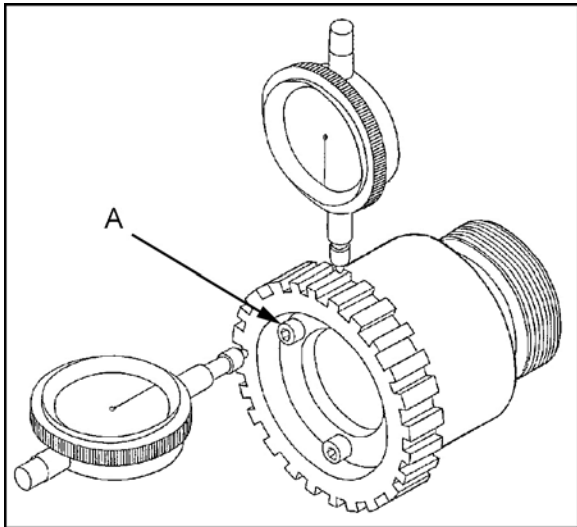

Figure 2
7. The runout on the coupling should be 0.005" or less. Adjustments can be made by three hex socket cap screws (A, Figure 2).